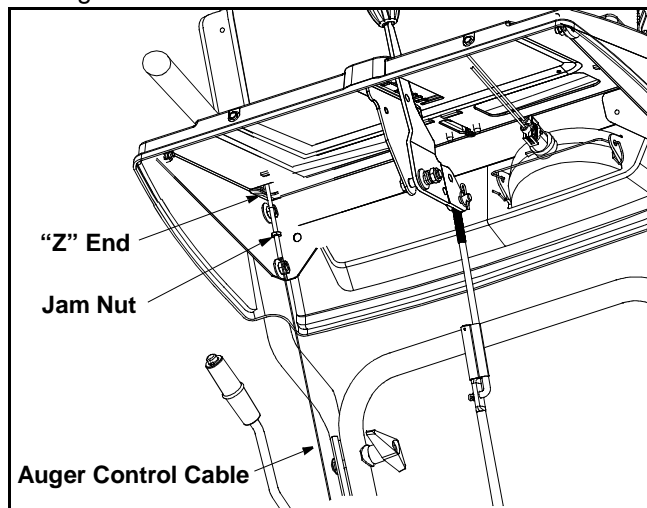

Figure 4
- Loosen the jam nut and thread the cable in (for less slack) or out (for more slack) as necessary. See Figure 4.